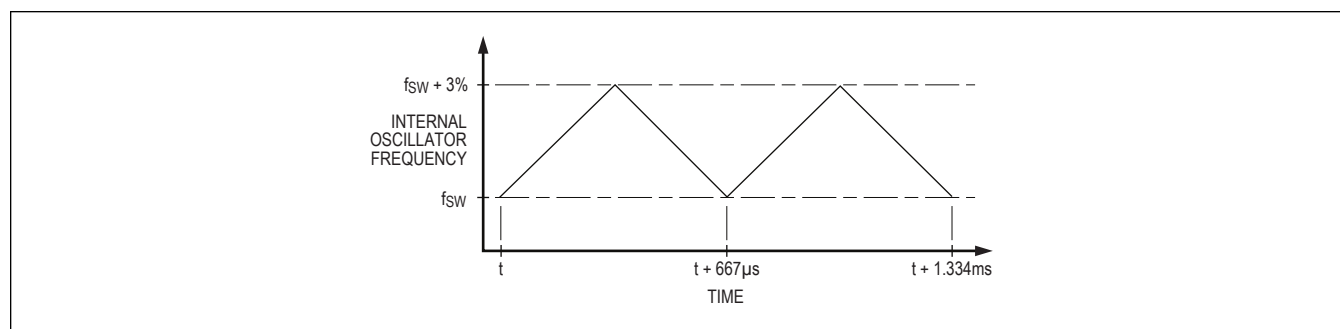

Figure 3. Effect of Spread-Spectrum on Internal Oscillator
The PMICs feature a linear spread-spectrum (SS) operation, which varies the internal operating frequency between f_{SW} and $(f_{\text{SW}} + 3\%)$. The internal oscillator is frequency modulated at a rate of 1.5kHz with a frequency deviation of 3% (see Figure 3). This function does not apply to an oscillation frequency applied externally through the SYNC pin. Spread spectrum is a factory-selectable option. See the Ordering Information for available options.